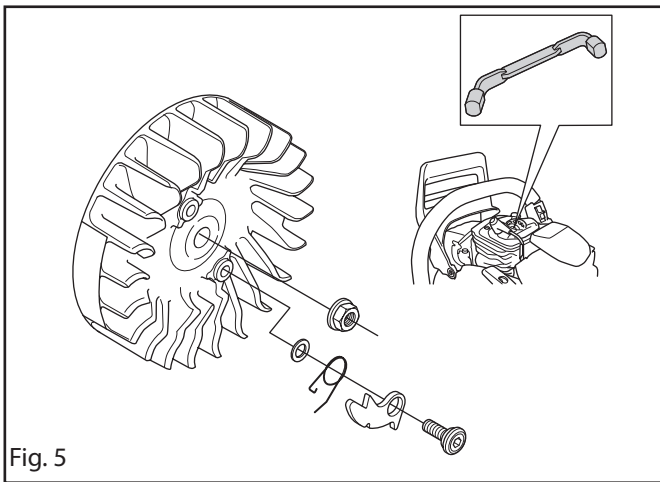

Fig. 5
3. Fit the two pawls on the flywheel. Make sure that they can move freely when fitted. See figure 5.
4. Remove the piston stop and reattach the spark plug. See figure 5.